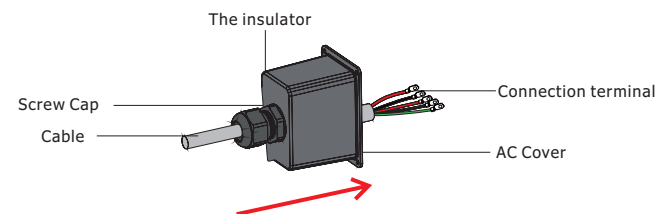

**Figure 4.3-3 Ac connection line**
**Step 1.** Prepare the terminals and AC cables as below. See Figure 4.3-3.